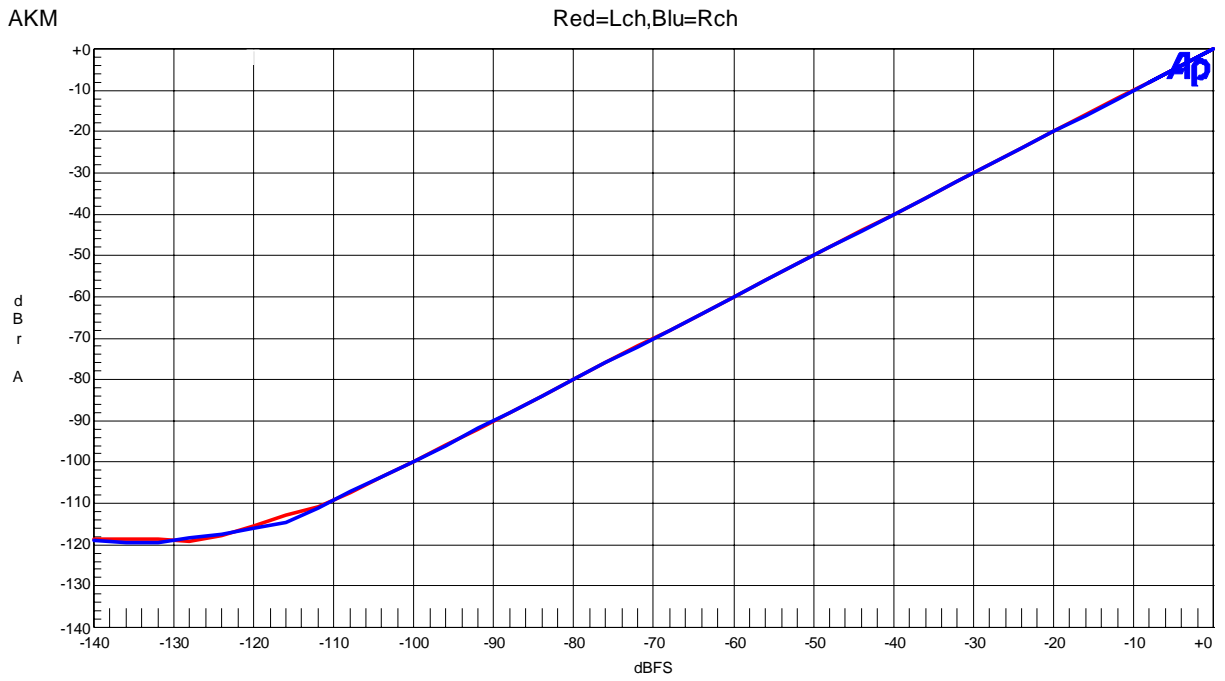

Figure 23. Linearity (Input Frequency=1kHz)
- Figure 23. FFT (Input Frequency =1kHz, Input Level =0dBFS)